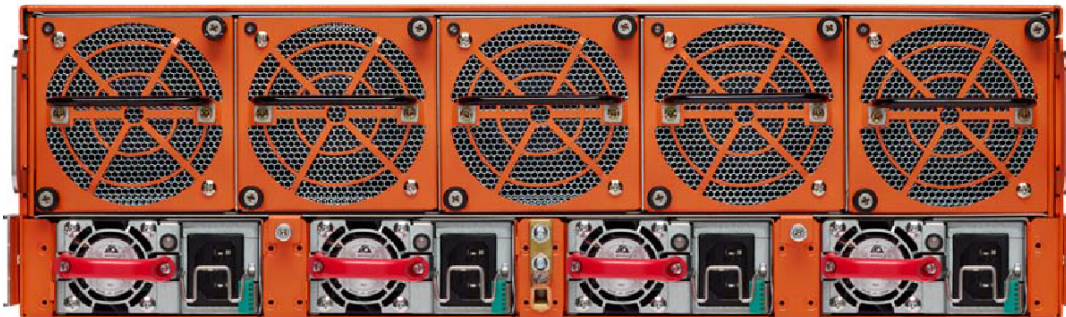

Figure 6: Four Power Supply Modules Installed
- Repeat the previous steps for the next PSM. Figure 6: Four Power Supply Modules Installed shows the GigaVUE-HC3 node with all four power supply modules installed.